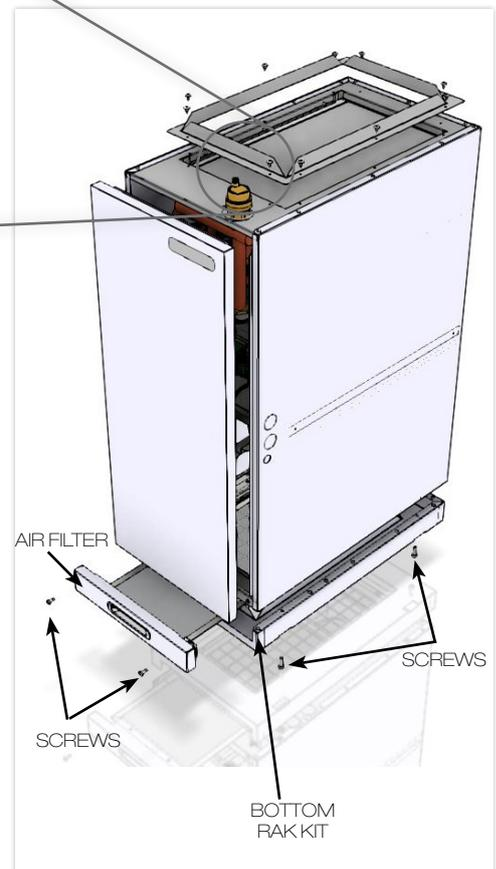

FIGURE 3. UPFLOW CONFIGURATION
See Figure 3
- 9.4.7 An automatic air valve must be fitted as shown in figure 3. More information can be found in section 9.5.2